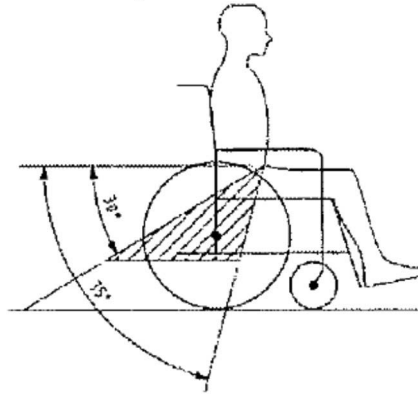

Figure 2
This place is marked on the wheelchair with a symbol. (figure 2)
10. This place is marked on the wheelchair with a symbol. (figure 2)